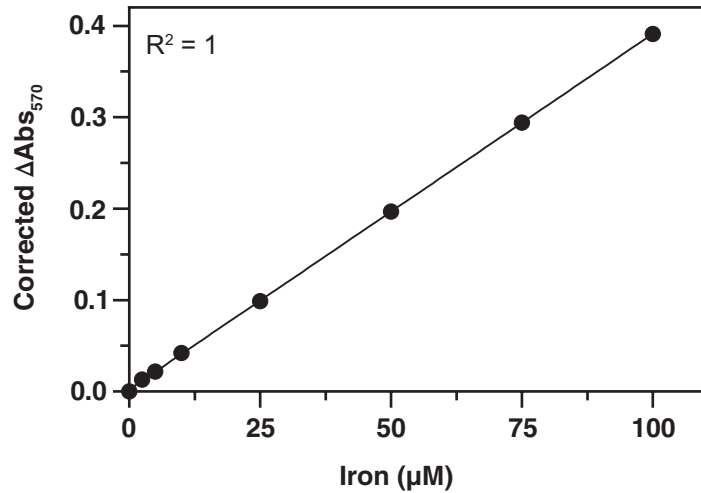

Figure 5. Typical standard curve
3. Plot the corrected ΔAbs_{570} values of the standards versus the final standard iron concentration (see Table 2 on page 15). See Figure 5 on page 20 for a typical standard curve.